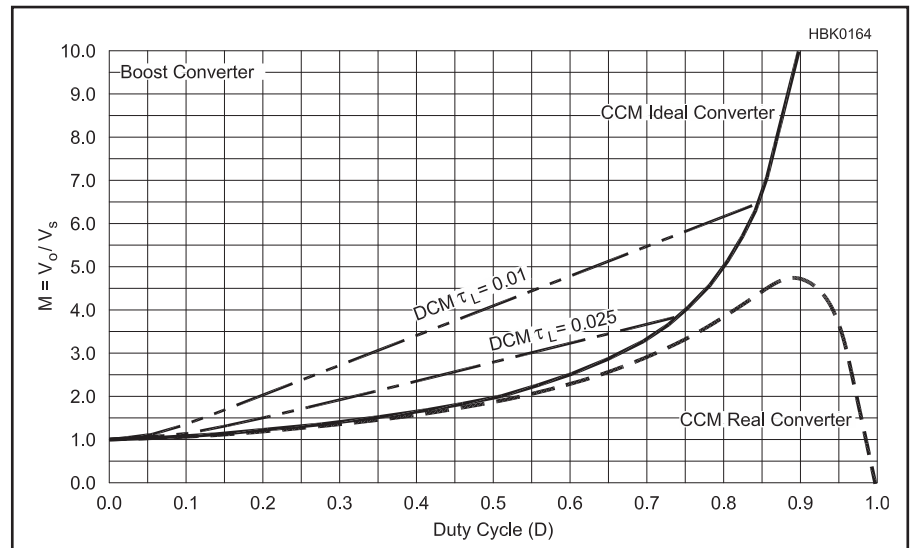

Fig 7.34 — DC control characteristic for a boost converter. $M = V_o/V_s$, D = duty cycle of Q1 and $\tau_L = f_s (L/R)$.
When Q1 is ON (Fig 7.33B), L is connected in parallel with the source (V_s) and energy is stored in it. During this time interval load energy is supplied from C. When Q1 turns OFF (Fig 7.33C), L is connected via D1 to the output and the energy in L, plus additional energy from the source, is discharged into the output. The value for L, V_s and length of time it is charged determines the energy stored in L. Again we have the possibilities that either some (CCM) or all (DCM) the energy in L is discharged during the OFF-time of Q1. The variation in the ratio of the output-to-input voltage (M) with duty cycle is shown in Fig 7.34.
There is also another very important practical effect of this limitation on the peak value for M . When the duty cycle is increased beyond the point of maximum M (this occurs at $D=0.9$ in Fig 7.34), the sign of the slope of the control function changes so that the control loop will change from negative feedback to
This graph closely resembles that for the boost converter (Fig 7.34) with one important exception: $|M|$ begins at zero. This allows the magnitude of the output voltage to be either below or above the source voltage, hence the name “buck-boost.”